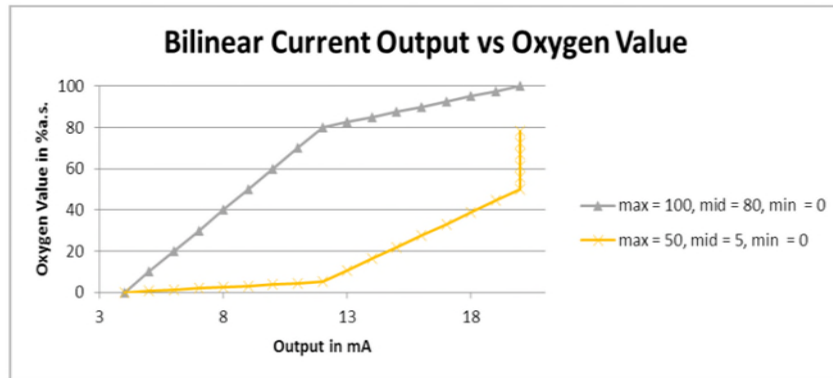

Figure 65. Bilinear current output vs oxygen value
- **Bilinear:** High, mid, and low value set to correspond to 4mA, 12mA, and 20mA respectively. This mode allows higher resolution in a certain range. Refer to Figure 65 for an example.
The first example (gray line) in Figure 65 shows high resolution in a low oxygen environment. The second example (yellow line) shows a high resolution in high oxygen environment. This also shows the behavior for measurement values that lie outside the value range (oxygen values over a maximum of 50 will be shown as 20mA).